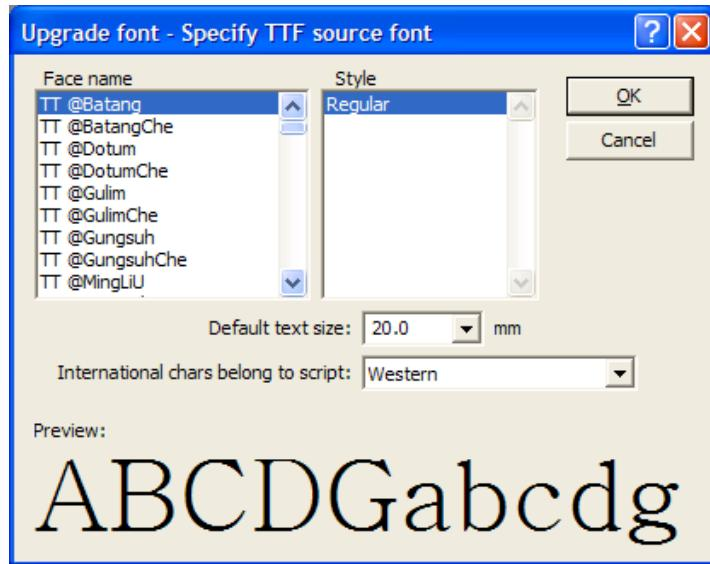

Figure 10.25: TTF source font dialog
1. Click on the “Font Editor> Open Satin font” option of “Tools” menu, “New/Load satin-stitch font” (Figure 10.25) dialog box appears dialog.